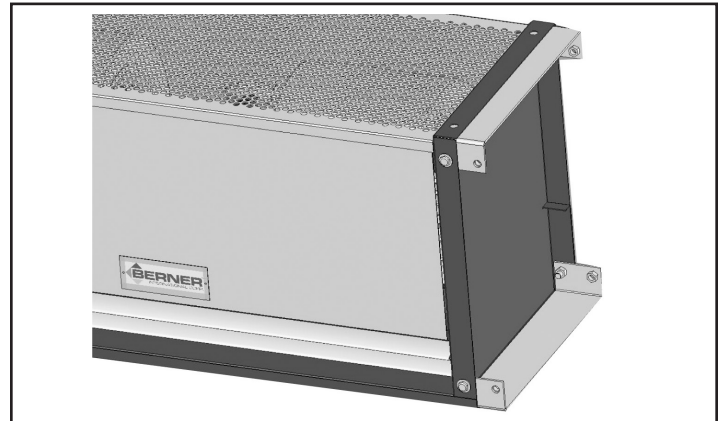

FIGURE 8 - Tandem Mounting for Vertical Mounting
- C. Using (4) $\frac{1}{2}$ - 13 x 1" bolts, attach the Tandem Mounting Brackets to the inside of one of the unit's end plates as shown in **Figure 8.**